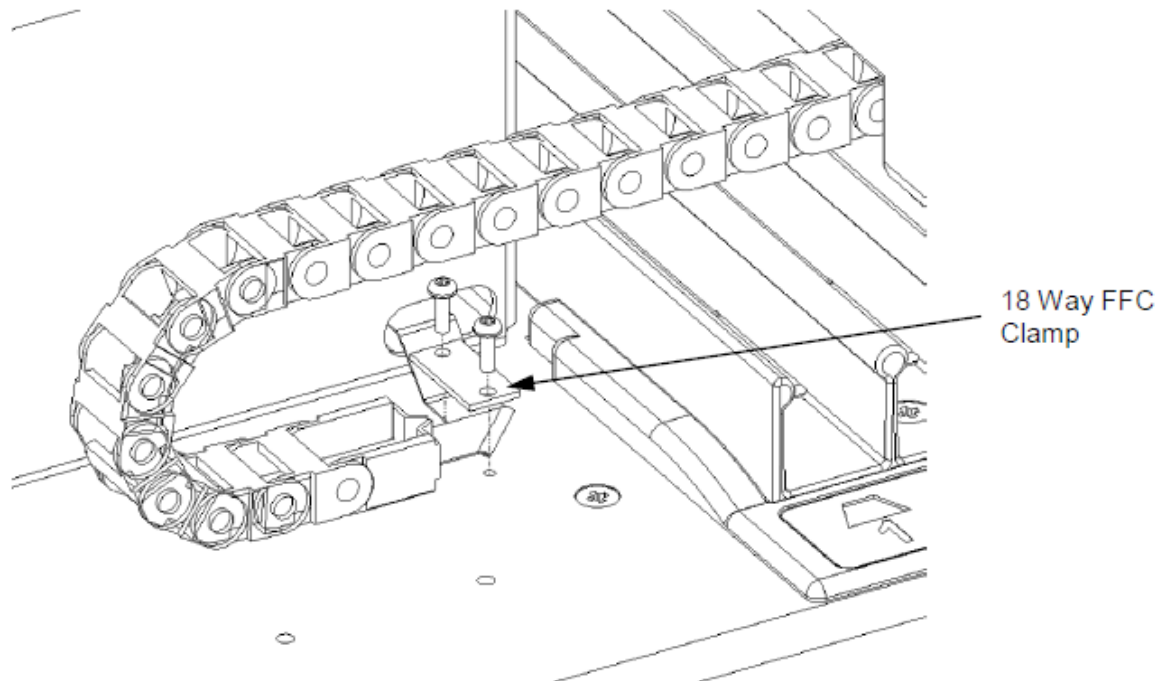

Figure V-2: Removing the 18 Way FFC Clamp
2. Disconnect the cable from the Fixed PCB, then depress the Button on the Sample Rack Scanner and move it to its right-most position. Unclip the free end of the Cable Chain to the Workspace and remove Cable Chain Adapter Plate (Figure V-2).